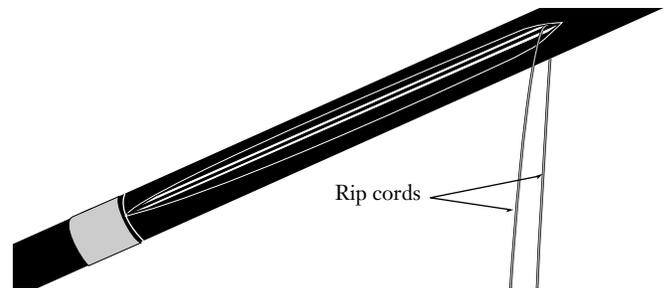

Figure 16
6.6 Locate the rip cords. Cut the rip cords near the tape mark with scissors (Figure 16).